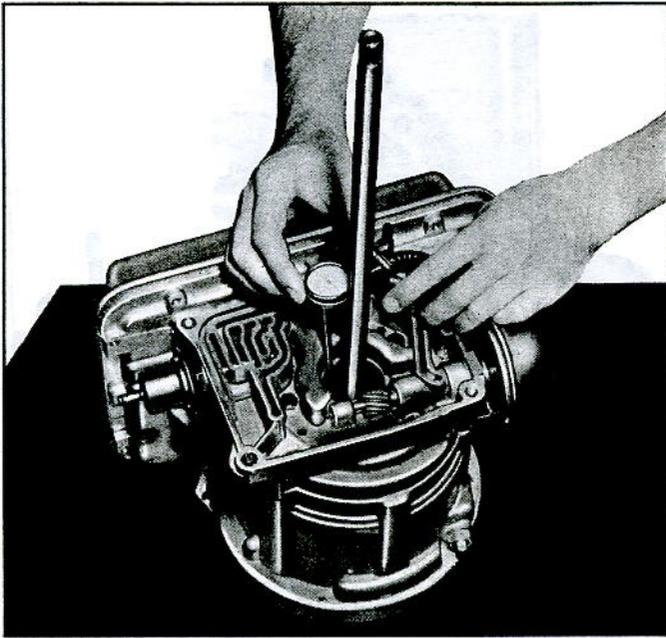

Fig. 8—Zeroing Dial Indicator on J-8364 on Output Shaft
- b. Without gasket, place support on rear pump cavity surface of the transmission case with transmission on front end as illustrated (fig. 8) so that dial indicator tip rests on planet carrier hub. Adjust indicator on J-8364 as required to permit maximum indicator travel and set indicator dial to zero.